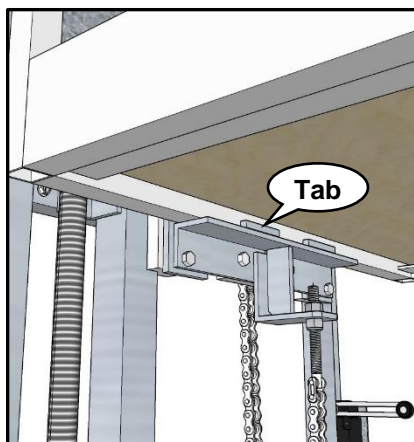

Figure 22
- 3** When positioning car on trolley, make sure the tabs are hooked under car as shown in **Figure 22**.